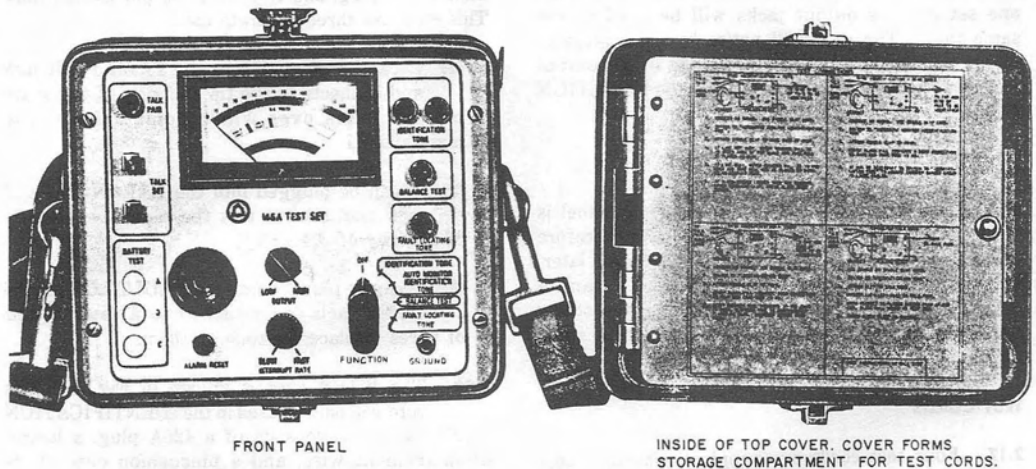

Fig. 2—146A Test Set
2.03 The upper cover comes completely off the test set. There is a storage compartment in this cover for the four cords supplied with the set. This compartment is formed by an inner lid within the cover with a quick release fastener. A brief description of the basic test connections and procedures is printed on both sides of the inner lid. See Fig. 2.
2.07 The front panel of the 146A test set is shown in Fig. 2. Each feature of the front panel is described briefly in the following paragraphs.
4.01 Remove the top cover from the 146A test set and open the inner lid in the cover. See Fig. 2.